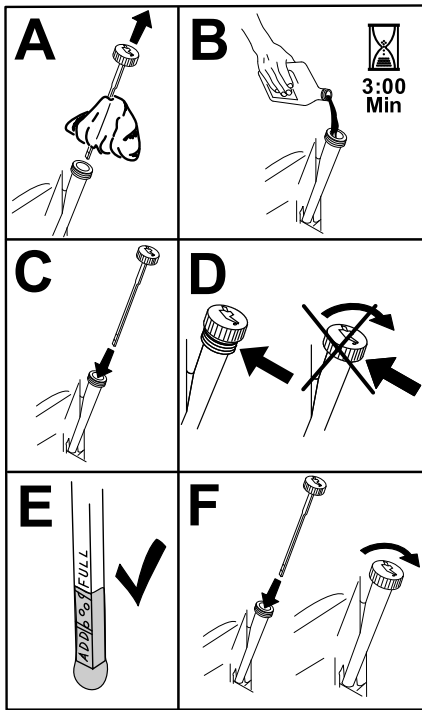

Figure 56
- Slowly pour approximately 80% of the specified oil into the filler tube and slowly add the additional oil to bring it to the **Full** mark (Figure 56).